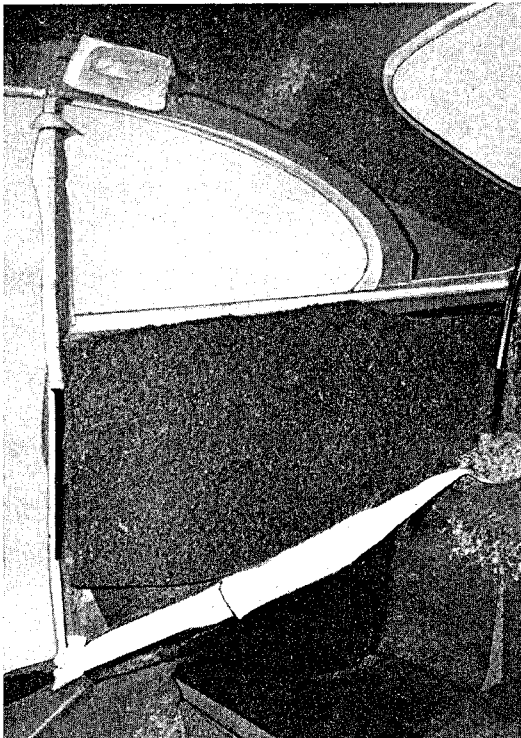

Fig. 98
1. Glue sound proofing felt to the rear and side walls and glue a fastener strip (white strip in Fig. 98) wherever the liner is to be attached.